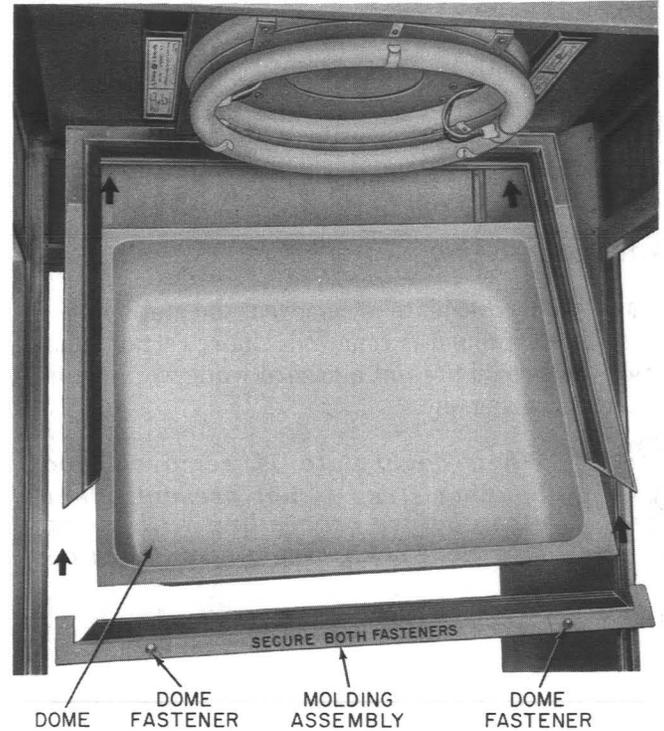

Fig. 22—Installation of Dome
- (1) Unlock dome fasteners and lower dome.
- (2) Remove machine screws and molding assembly.
- (3) Remove defective dome and insert replacement as shown in Fig. 22.
- (4) Replace and secure molding assembly.
- (5) Raise dome and secure in position by locking dome fasteners.